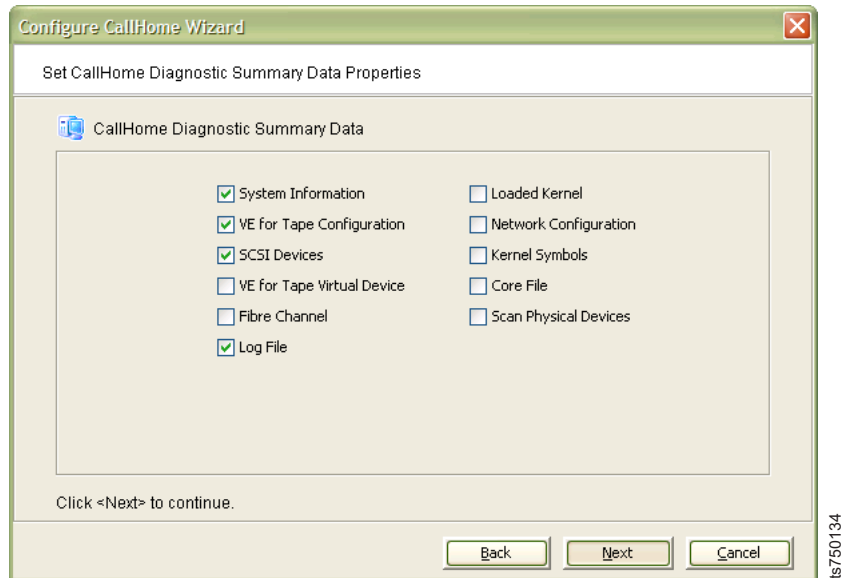

Figure 123. Set CallHome Diagnostic Summary Data Properties window
5. In the Set CallHome Diagnostic Summary Data Properties window (Figure 123 on page 179):